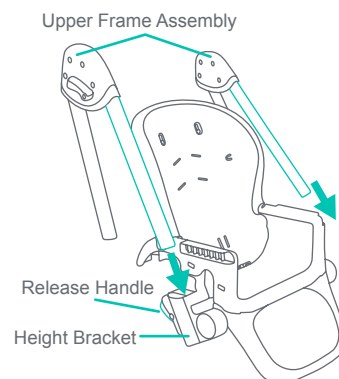

Fig. 5
- 5) • Insert the front tube of the right and left side Upper Frame Assemblies into the Height Adjuster (Fig. 5). The front tube is easily distinguished from the rear tube by the array of holes located on the backside of the front tube.